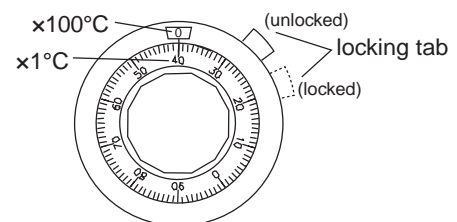

Figure 9. ST-138 Temperature Knob
3. Locate the Temp knob on the front of the controller. The dial reads in units of minus degrees Centigrade. See Figure 9 to locate the locking tab. Turn this tab counterclockwise until the Temp knob is free to rotate.
Figure 9 exhibits the position of the dial for a temperature of -50°C . Position 1 shows the locking tab in the unlocked position. Position 2 is the locked position.